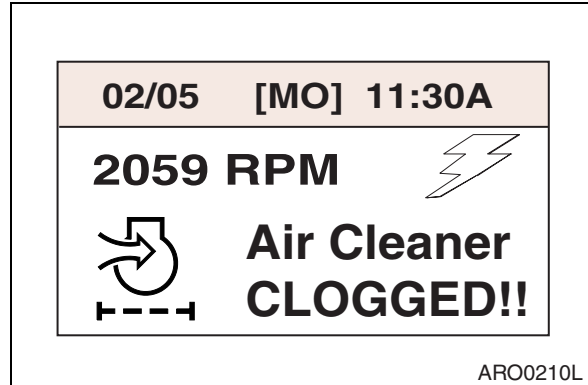
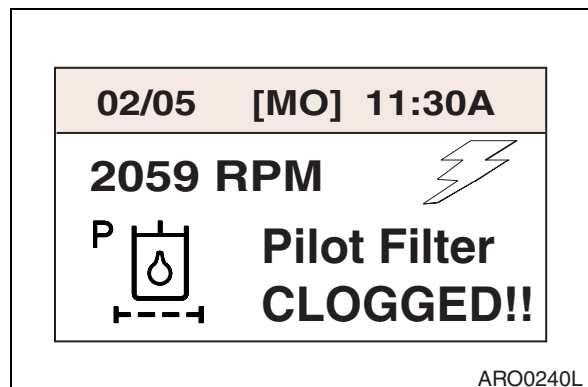

Figure 40
Figure 42
**NOTE:** See Figure 40 thru Figure 42.